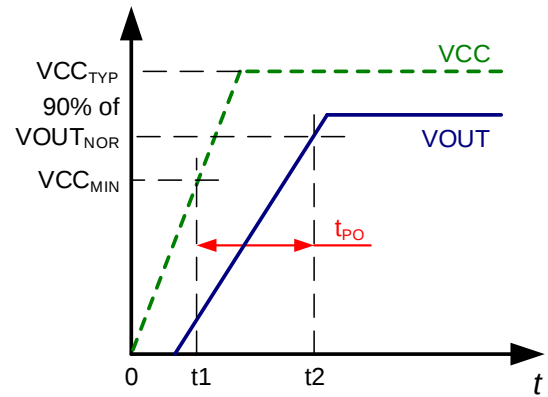

Figure 5: Power-On Time (t_{PO})
- t2: V_{OUT} settles within ±10% of its steady state value under an applied primary current (see Figure 5).